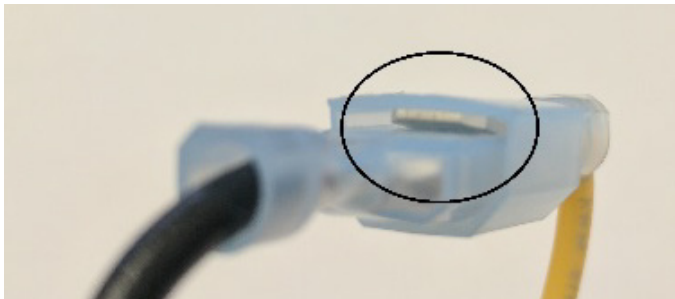

Figure 1 - Improper connection (male stab circled; not seated in female connector)
- c. **NOTE:** When connecting male quick-connects to female quick-connects, ensure that the male stab fits properly within the female connector. (See Figures 1 and 2 below.)